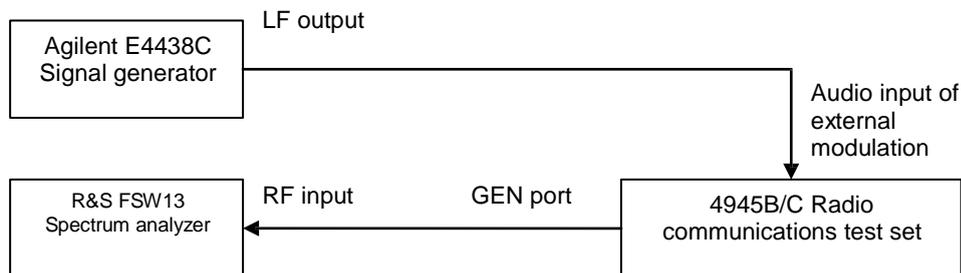

Fig. 6-9 Block diagram for external analog modulation characteristics test of RF signal generation
- 1) As shown in Fig. 6-9, connect the test instrument and set 4945B/C to the RF TX mode with the output frequency of 1.05 GHz and the amplitude of -10 dBm; select the modulation format to FM; select external audio as the modulation source and 100 kHz as the frequency deviation; set the spectrum analyzer to the analog demodulation mode, open the FM demodulation window, set the center frequency to 1.05 GHz and the demodulation bandwidth to 50 kHz; Set the LF output frequency of the signal generator to 20 Hz and the output amplitude to 200 mV_P, and record the measured value of modulation rate to corresponding space in Table A.1;
1) As shown in Fig. 6-9, connect the RF input of the spectrum analyzer to the GEN port of 4945B/C, set 4945B/C to the RF TX mode with the output frequency of 1.05 GHz, the amplitude of -10 dBm, the modulation format of BPSK, the code element rate of 1 MHz, the filter of RRC, the α factor of 1.0, and the data source of PN9;